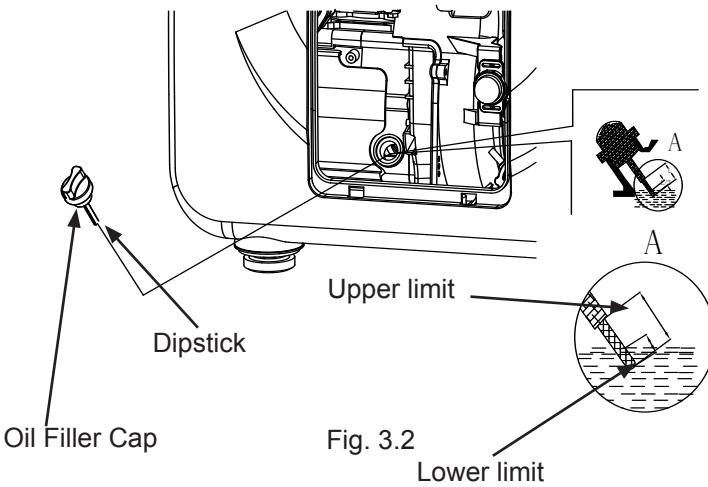

Fig. 3.2
2. Remove the oil filler cap and wipe the dipstick clean (Refer to Fig. 3.2 for HY1000Si or HY2000Si)